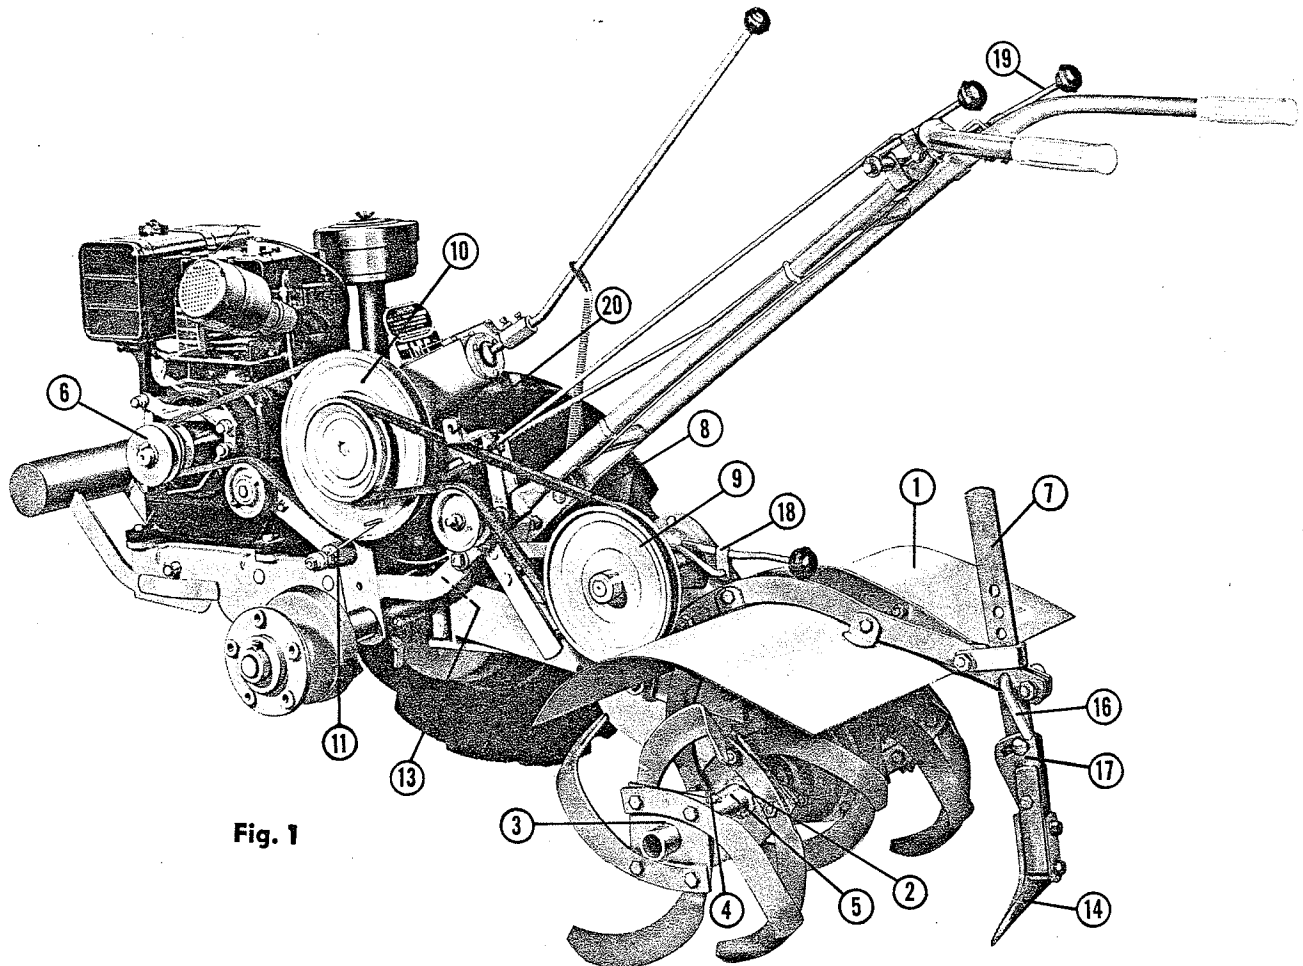

Fig. 1
2. Each set of tines is assembled to its plate ready for quick installation. Please refer to Fig. 1 for mounting tines to tiller. Assemble left inner tine assembly (2) to left outer tine assembly (3) and fasten with pin (4) and cotter pin. Inner tine assemblies are installed to the tiller tine shaft with long end of pipe (5) to the outside. **NOTE:** When mounting tines, check to be sure the sharp edges of the blades will enter the ground first. Tops of the tines revolve towards the front. Install the tine assemblies to the stub shaft on the left side of the transmission case and fasten with pin and cotter pin.